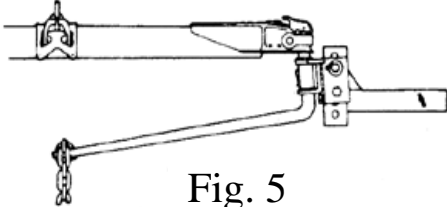

Fig. 5
6. Raise trailer tongue and rear of vehicle with the tongue jack. Approximately 8 to 12 inches. Lower yoke of snap up bracket until it is parallel with the ground, and slip the closest link over the hook (If there are less than 5 links between hook and u-bolt adjust ballmount angle rearward, and repeat procedure - see Fig. 5 thru 8 below). With the snap up bracket handle over the yoke, raise until yoke has passed "over-center". Slide the spring clip  through the small hole to lock the yoke in place. Repeat for other side.